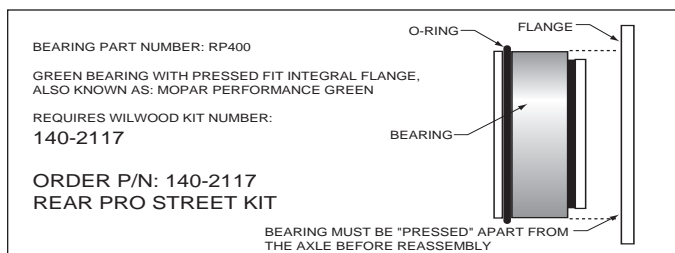

Figure 1. Press Fit Flange Bearing Configuration
**NOTE:** Before any tear-down or disassembly begins, it is important to verify which bearing you have. There are two types of "Green Bearings" being supplied by axle manufacturers, each one requires a specific Wilwood rear disc brake kit for proper installation. Your setup should look like figure 1, otherwise you have the wrong kit.